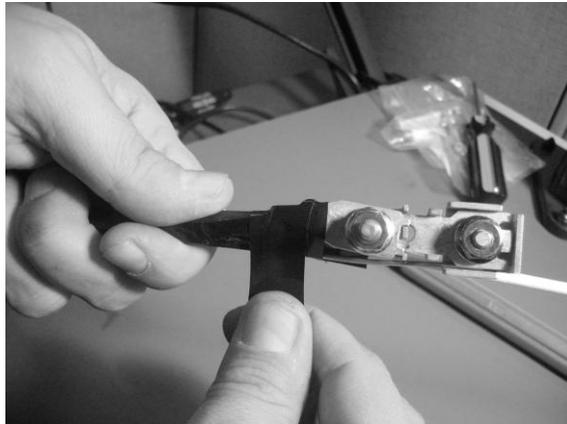

Figure 7 – Wrap the exposed strength members with tape.
2.8 Wrap the exposed strength members and the bottom section of the bond clamp with electrical tape. Over wrap adjacent layers of tape by one-half wrap (Figure 7).
2.9 Place the insulating cap over the bond clamp. Cut a longitudinal slit in the cap to slide over the stud of the bond clamp (Figure 7). Tape the rubber cap to the cable to keep it in place.